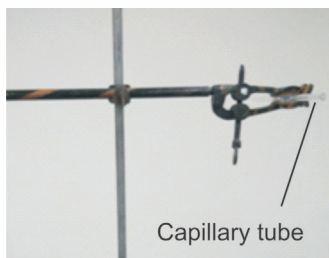

Fig. 7.5: Capillary tube in a retort stand.
1. Hold the capillary tube horizontal in the clamp of a retort stand, as shown in Fig. 7.5, and focus the travelling microscope on its bore at one end.